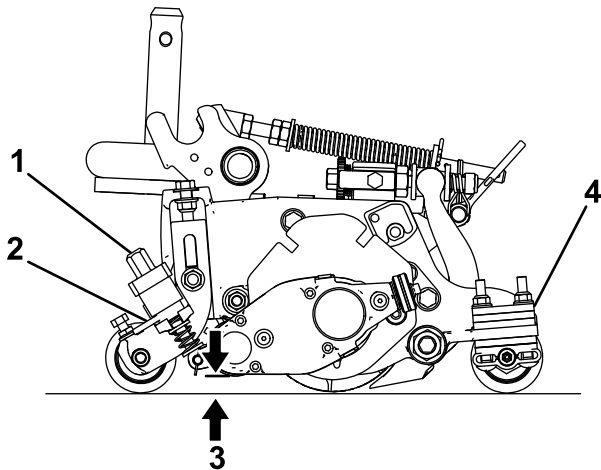

Figure 22
3. Rotate the quick-up levers (Figure 22) to the ENGAGED position (the handle points toward the front of the cutting unit).
4. At 1 end of the groomer reel, measure the distance from the lowest tip of the groomer blade to the working surface (Figure 22). Turn the height adjuster knob (Figure 22) to raise or lower the groomer blade tip to the desired height.